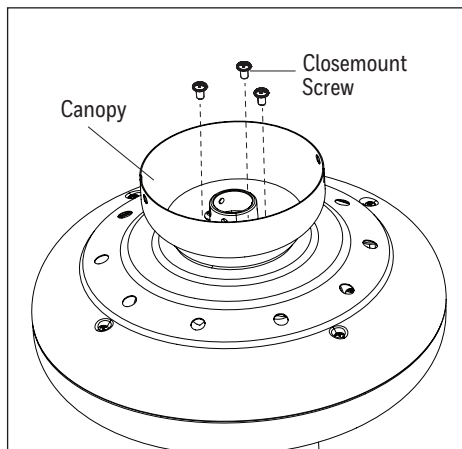

Figure 4.2
2. Remove the three Phillips-head closemount screws from the top of the motor assembly. Then align the canopy with the holes in the top of the motor assembly. The larger holes in the canopy will encompass the remaining screws. Secure the canopy to the top of the motor assembly with the previously removed closemount screws (Figure 4.2).